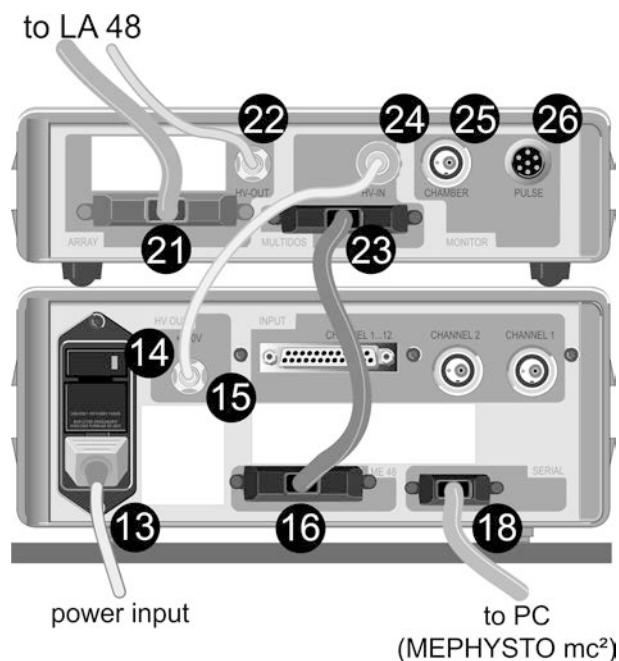

Figure 8-3: Cable connections of MULTIDOS and extender ME48
- Connect port **16** of MULTIDOS to port **23** of the extender ME48, using the connection cable T10006.1.002 (Figure 8-3).